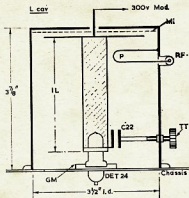

Fig. 2—Cavity Resonator.
THE circuit here is of a 70-centimetre transmitter designed by G3NNG and shown in the February issue of "QAV," of the Harwell (A.E.R.E.) Club group. Capable of an output of 8-10 watts on 432 Mc., the DET24 is in a resonant cavity, details of which are given in Fig. 2.
Fig. 1—Circuit of the 430 Mc. Transmitter designed by G3NNG, with a DET24 in a cavity resonator (see Fig. 2) as the straight-driven p.a. (V3), capable of up to 10 watts r.f. output. Note that modulation is applied simultaneously to the anodes of driver and amplifier. This has been a particularly useful 70-centimetre transmitter design for the Harwell Club group, having won them three 430 Mc. contests during 1963. Note that in this circuit V3 should also be shown as taking heater chokes.
- C21—See Fig. 2.
- C22—Tank tuning, see Fig. 2.
- LCV—432 Mc. Cavity: See sketch Fig. 2.
The DET24 grid is mounted in a brass ring which is insulated from chassis by mica or melinex sheet to form the decoupling capacity C21. Care must be taken to ensure that no excessive mechanical strain is placed on the valve in its mounting, or the glass-metal seals may break. The key to the construction of the cavity is given with Fig. 2.